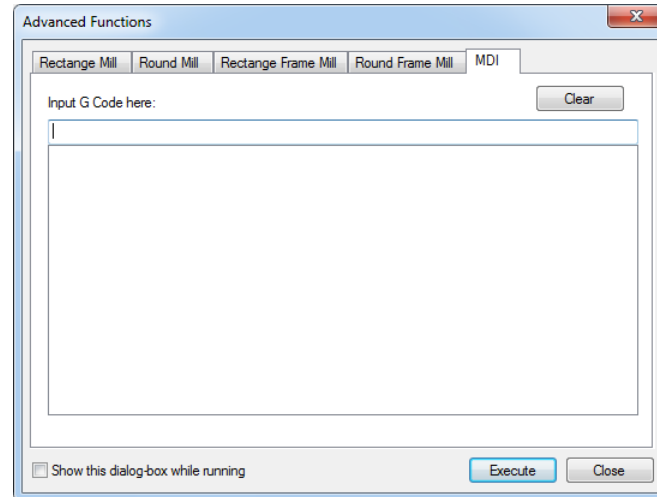
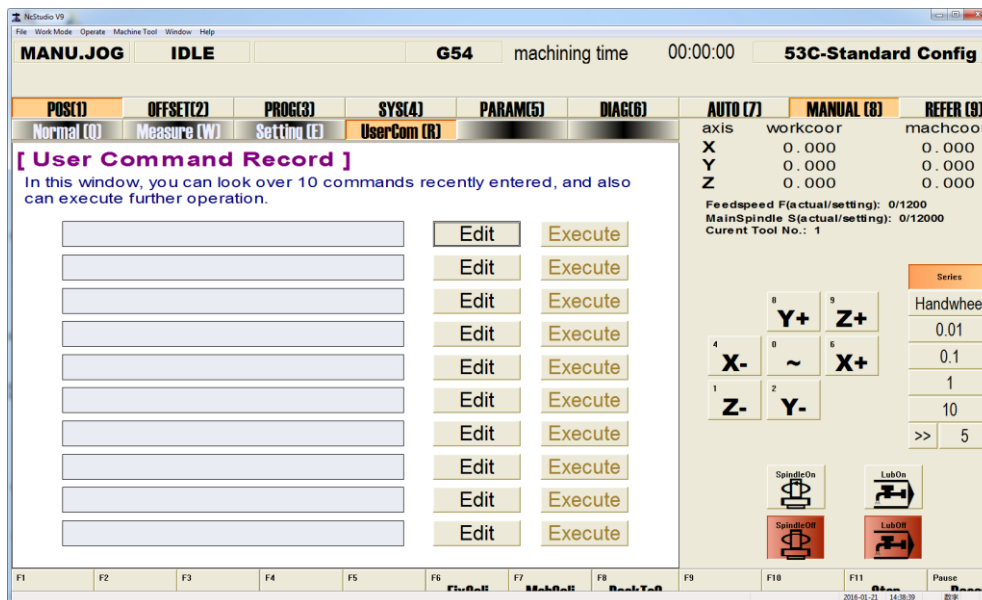

Fig. 4-4 “Advanced Functions” Dialog Box in NcStudio V8
Fig. 4-5 [UserCom] interface in Manual Mode of NcStudio V9
- 5) Test whether the inputs and outputs on the terminal board work normally. For an input, the method is as following: short circuit an input and COM on the terminal board: if the corresponding LED on the terminal board turns on, but the corresponding input in the software does not have the signal, you need to check the connection of the cable DB37M/F between the control card and the terminal board. If the LED does not turn on, you need to check whether the terminal board meets a fault (like power supply issue). To test an output port, set parameter "Move to Mechanic Point before Machining" as "False". Enter a command in interface [MDI] after selecting sub-menu [Advanced MDI] under menu [Operation] in NcStudio V8, as shown in Fig. 4-4, or in interface [UserCom] in NcStudio V9, as shown in Fig. 4-5. Use 901 command to program the command, for example command "M901 H2 P1/M901 H2 P0" is for testing port 2. After executing the command you inputted, observe whether the corresponding LED on the terminal board turns on or off accordingly. If so, the output works normally; if not, check the connection of the cable DB37M/F between the control card and the terminal board. And if the connection is correct, you need to change a terminal board.